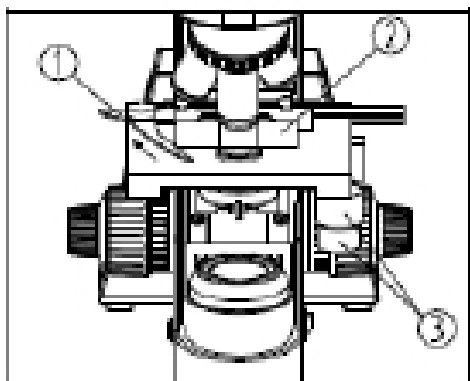

Fig. 9
1. Open the slide holder by pressing the slide holder lever (1) towards the back of the microscope, insert slide with cover slid up (2) and secure the slide by gently releasing the slide holder lever (see Fig. 9).
2. Rotate the X and Y-axis knob (3) to move the specimen to the center (alignment with the center of the objective).